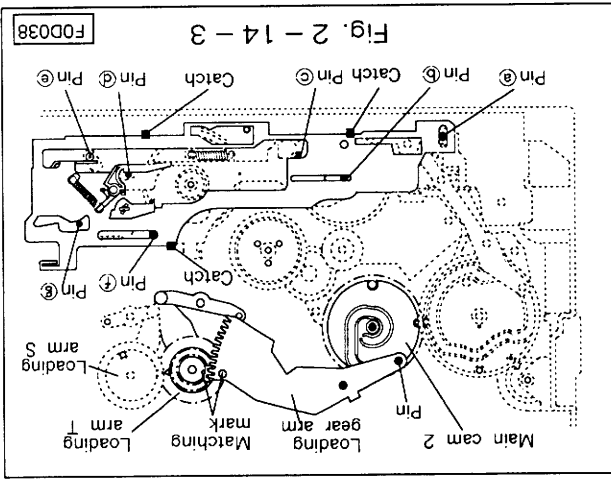

Fig. 2-14-3
B. Install the cam plate B by paying attention to the pin (a) to (e) positions shown in Fig. 2-14-3, and assemble the plate with three catches, grip ring (g) and cut washer (h).
C. Line the matching mark on the loading gear arm T and that on the loading gear arm as shown in Fig. 2-14-3, and assemble the loading gear arm so that the pin of the loading gear arm enters the groove of the main cam 2. Secure the loading gear arm with two grip rings (f).